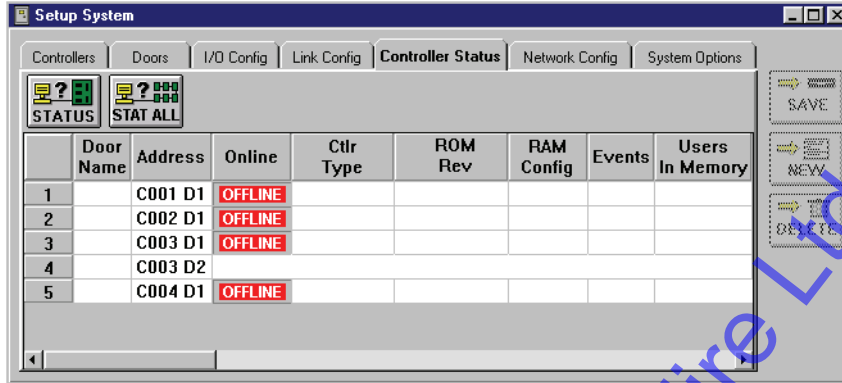

Figure 2-47: Controller Status Window
2. Click on the **Controller Status** tab. The Controller Status window appears (see Figure 2-47).